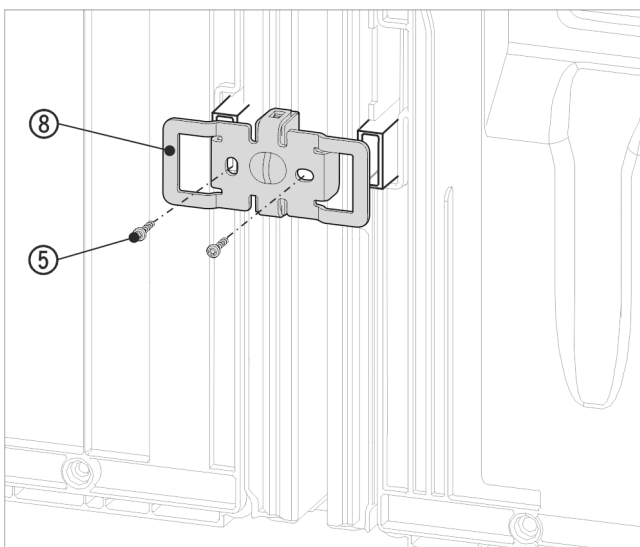

Fig. 18 Example illustration
- ▶ Slide the bracket Fig. 18 (8) on once more with the slots over the retainer for the wall spacers.
- ▶ Tighten firmly with 2 screws Fig. 18 (5).